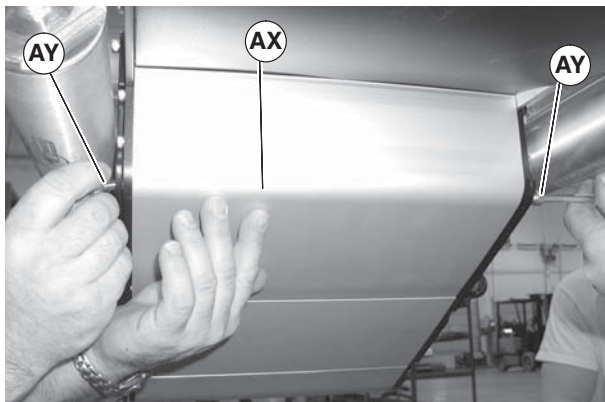

Figure 58
2. Temporarily support idler guard assembly (Figure 58, item AX). Remove screws (AY).